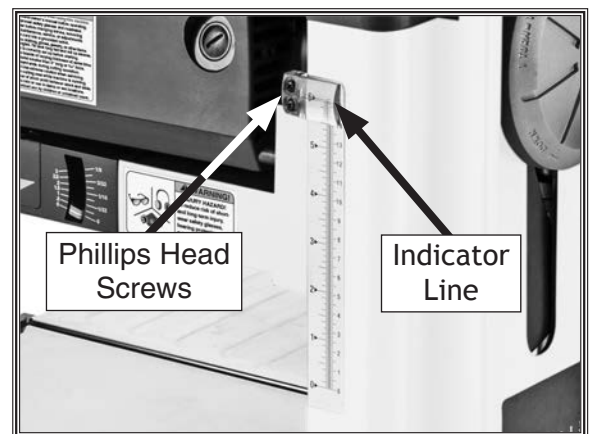

Figure 30. Elevation scale components used to calibrate thickness reading.
3. If there is a discrepancy between board thickness and reading on elevation scale, loosen Phillips head screws shown in **Figure 30**, adjust position of red indicator line to show correct thickness, then re-tighten screws.